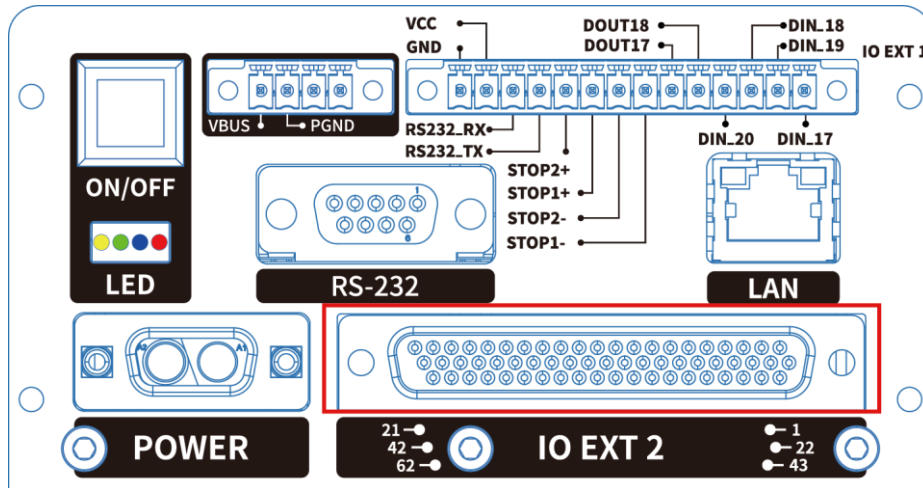

Figure 6.51 Connect to external expansion I/O interface
- Step 1** Connect one end of the DB62 cable to the external expansion I/O interface on the base of Dobot M1 and the other end to the expansion board, as shown in Figure 6.51.